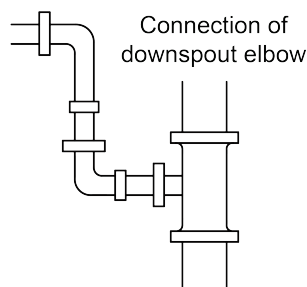

Fig.4.40
- No2: Down elbow connection as shown in Fig.4.40;